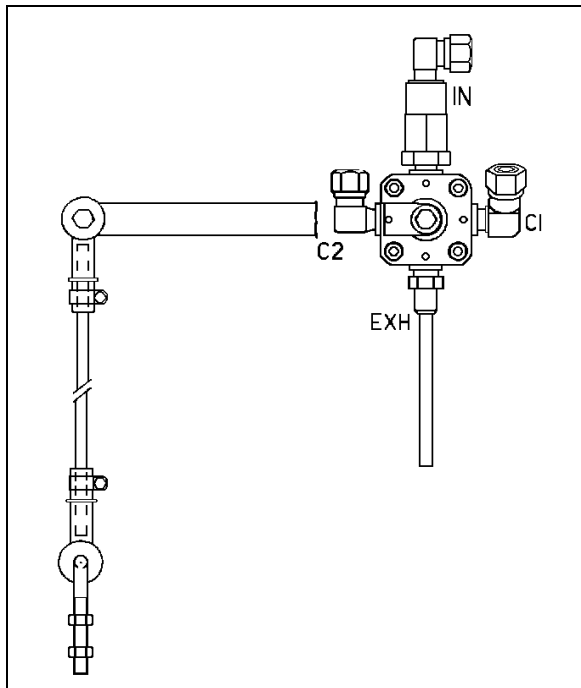

FIGURE 53: REAR HEIGHT CONTROL VALVE
2. Loosen the clamp on the height control valve rubber coupling and bring it up or down (Fig. 53).